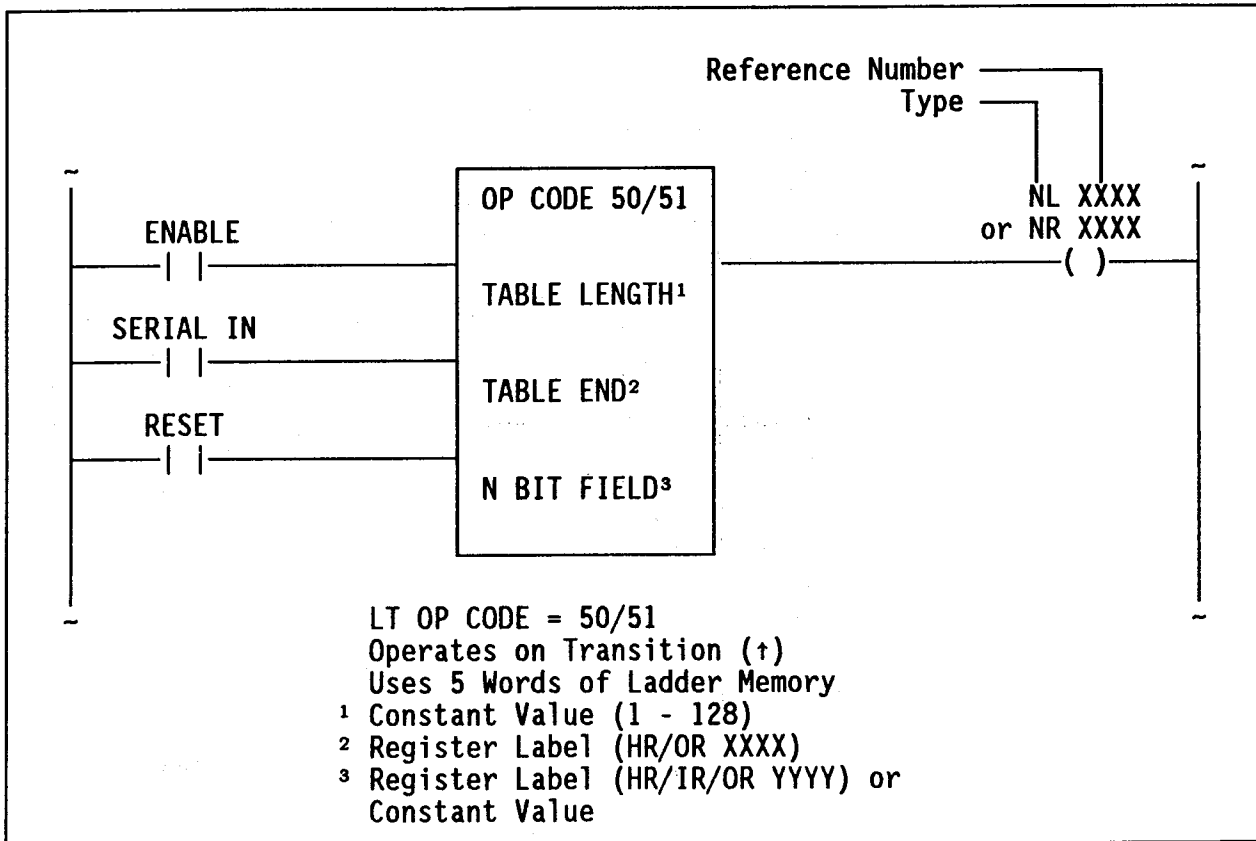

Figure 1. N Bit Serial Shift Register - Right (NR) or Left (NL)
The N Bit Serial Shift Register-Right (NR) and the N Bit Serial Shift Register-Left (NL) functions consist of 1 through 128, 16-bit registers (16 through 2048) bits) that can shift N (0 through 16) bits right (NR) or left (NL) at a time. NR/NL function symbology is shown in Figure 1.